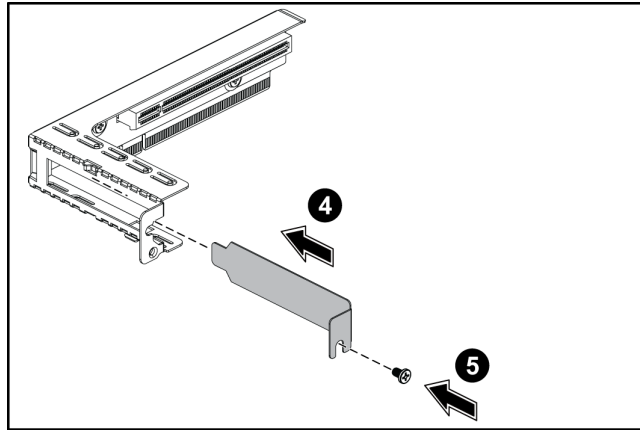

Figure 45. Securing the Slot Cover
5. Secure the slot cover to the PCI-E cage with one screw as shown in Figure 45.